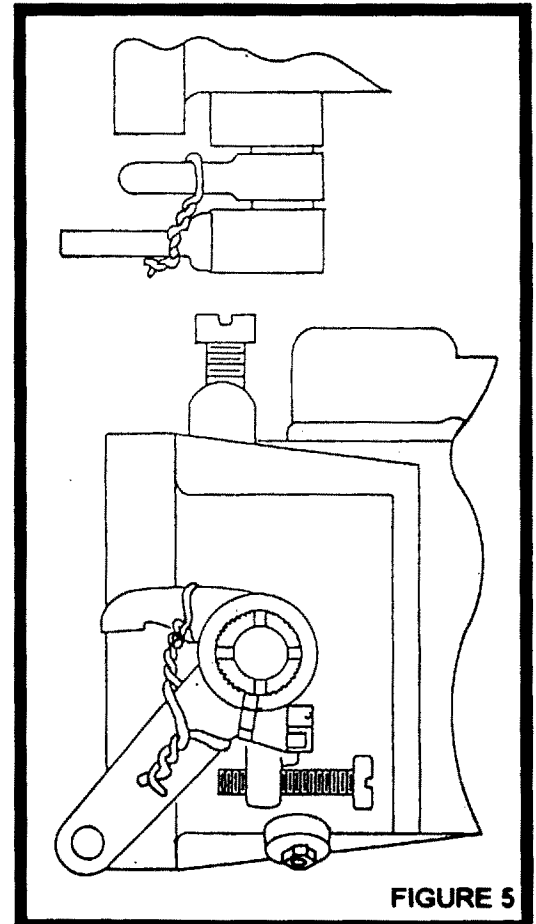

FIGURE 5
- 67) Install shaft packings (36) and retainers (46) using throttle shaft packing assembly tool M-105. Lubricate throttle shaft with light oil and install, being careful not to damage packings. Install throttle valve (4) and throttle valve screws (8). Run screws lightly in place, rotate the shaft to closed position and tap the valve lightly in place, rotate the shaft to closed position and tap the valve lightly with the screw driver blade to seat the valve in throttle bore. Hold the throttle valve closed and tighten the screws. Torque to 12-15 inch pounds.
- 68) Safety stake the screws (8) using tools M-100 and M-107. Three or four punch marks around edge of screw threads should suffice. Do not overpeen.
- 69) Install throttle opening spring (27). Place throttle lever (2) at proper angle on the throttle shaft (3) and secure with clamp screw (13) and tab washer (64), or retaining nut and cotter pin (91). Torque screw to 20-28 inch pounds or nut to 25-60 inch pounds, and bend tab washer or cotter pin to safety. If using old style lever and shaft, safety wire per Figure 5. Install throttle stop pin (53) and push nut (67) if used.
- 70) Assemble pump and economizer lever (80), link (82), pins (52), wave washer (58), Tru-Arc rings (61), pump link bolt (74), plate (85), and center nut (66) in the manner shown in the exploded view.
- 71) Attach lever with assembly to the throttle shaft using locating screw (6), secure the locating screw (6) in place and then clamp the lever (80) in place with screw (12) torque to 20-28 inch pounds, bend tab washer (59) for safety. Safety wire the locating screw (6) through the clamping slot in lever (80).